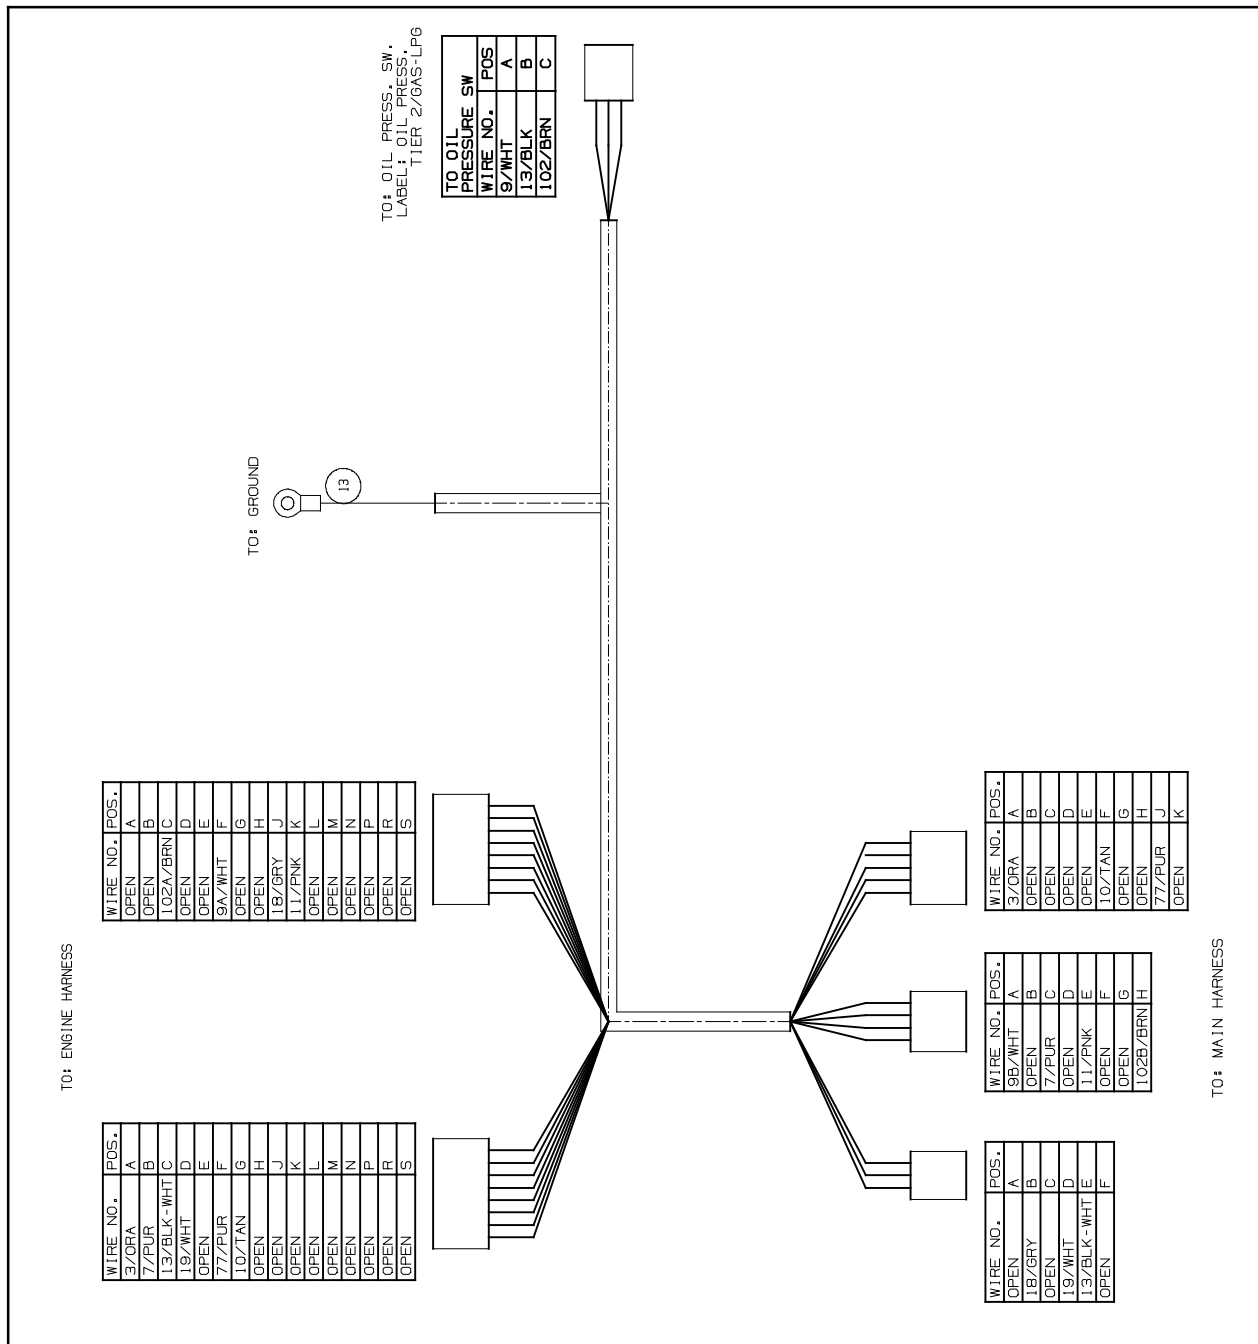

FIG. 3
- Remove the existing harness from the machine. Discard the removed harness. (Fig. 3)